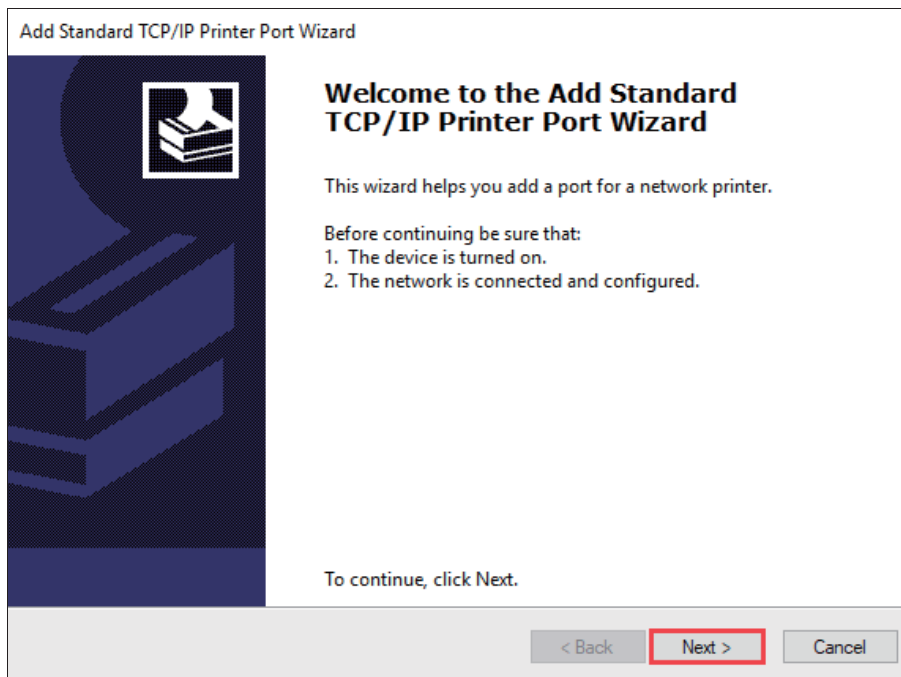

Figure 2-38 Add Standard TCP/IP Printer Port Wizard
- 6. The “Add Standard TCP/IP Printer Port Wizard” screen displays, click “Next”, as shown in Figure 2-38.